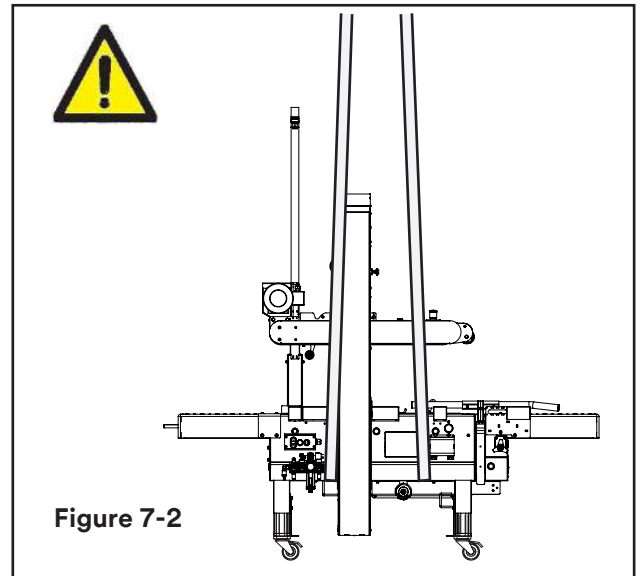

Figure 7-2
- 1 - Lift the machine with belts or ropes paying attention to place the belts at points on frame to avoid any possible damage (Figure 7-2).